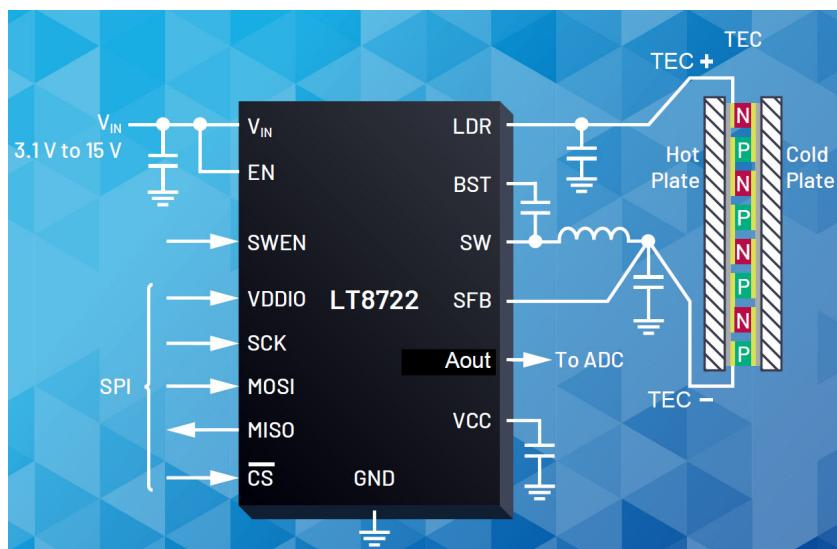

Figure 3: TEC Load Connections
- b. Connect to TEC load as shown in Fig. 3. TEC+ and TEC- correspond to the DC3145A banana jacks with the same labels.